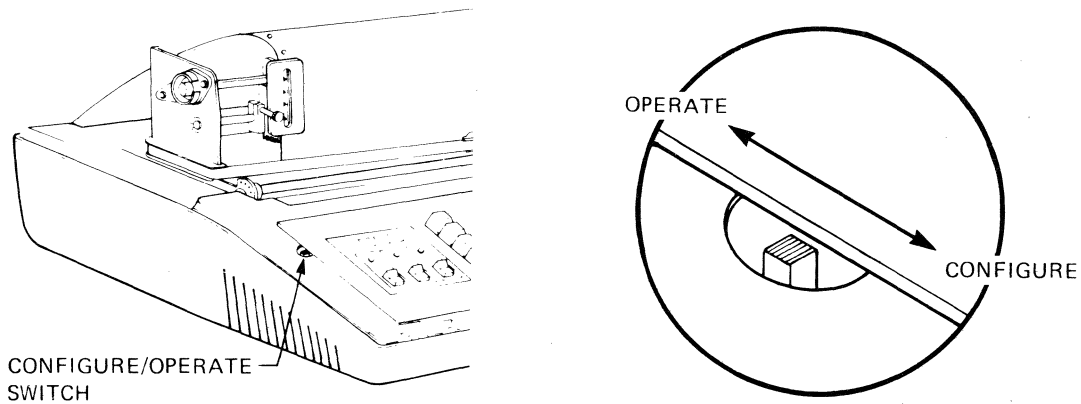

Figure 3-3. CONFIGURE/OPERATE Switch
3.2.4 CONFIGURE/OPERATE SWITCH. This two-position slide switch is located on the left side of the operator panel under the terminal cover. When in the CONFIGURE position, the terminal operating parameters may be changed; when in the OPERATE position, the terminal functions normally. The correct position of this switch is shown in Figure 3-3.